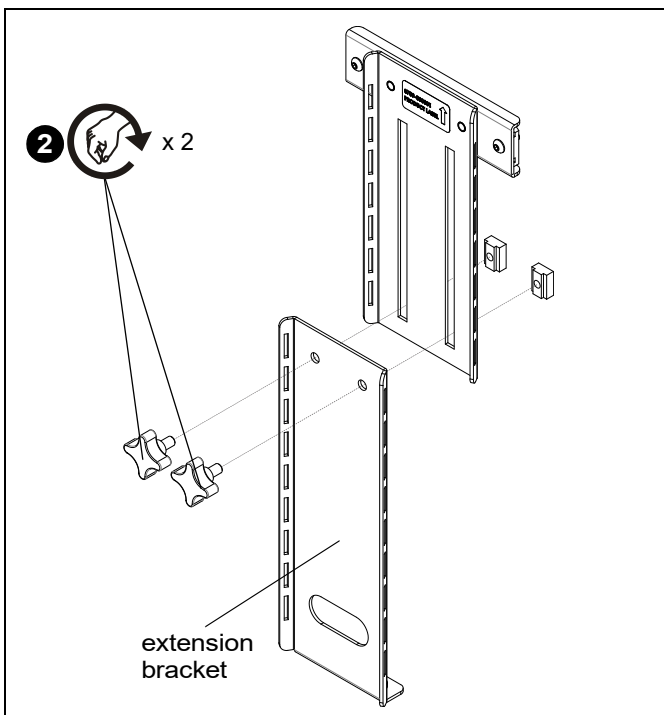

Figure 2
2. (Displays 65" and larger ONLY) Rotate extension bracket 180° and re-install height-adjustment knobs to secure brackets in new orientation. (See Figure 2)